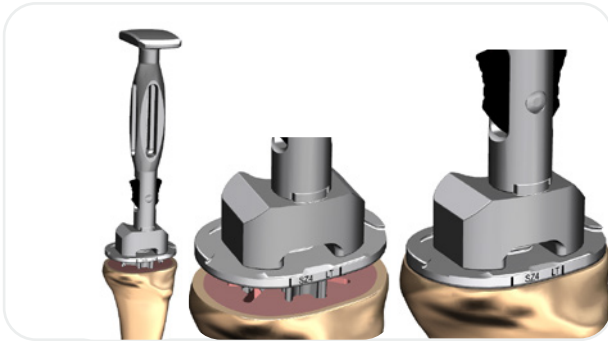

Figure 53
4. Attach the modular handle to the modular universal tibia impactor. Continue impaction until the tibia implant is fully seated (**Figure 53**).